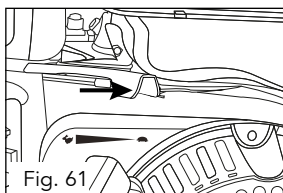
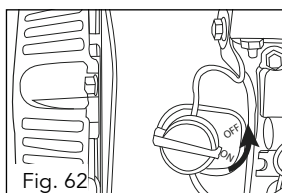
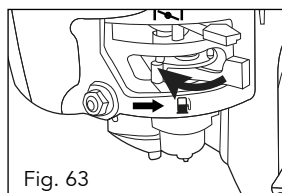

Fig. 61
Fig. 62
Fig. 63
2. Move the throttle lever fully right towards the  indicator (fig. 61), move the engine on/off switch to the OFF position (fig. 62) and fuel lever left, closed position (fig.63).